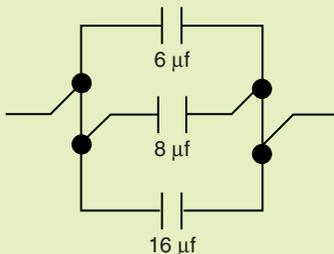

Figure 44
6. Calculate the value of the single capacitor equivalent to the arrangement shown in Figure 44.